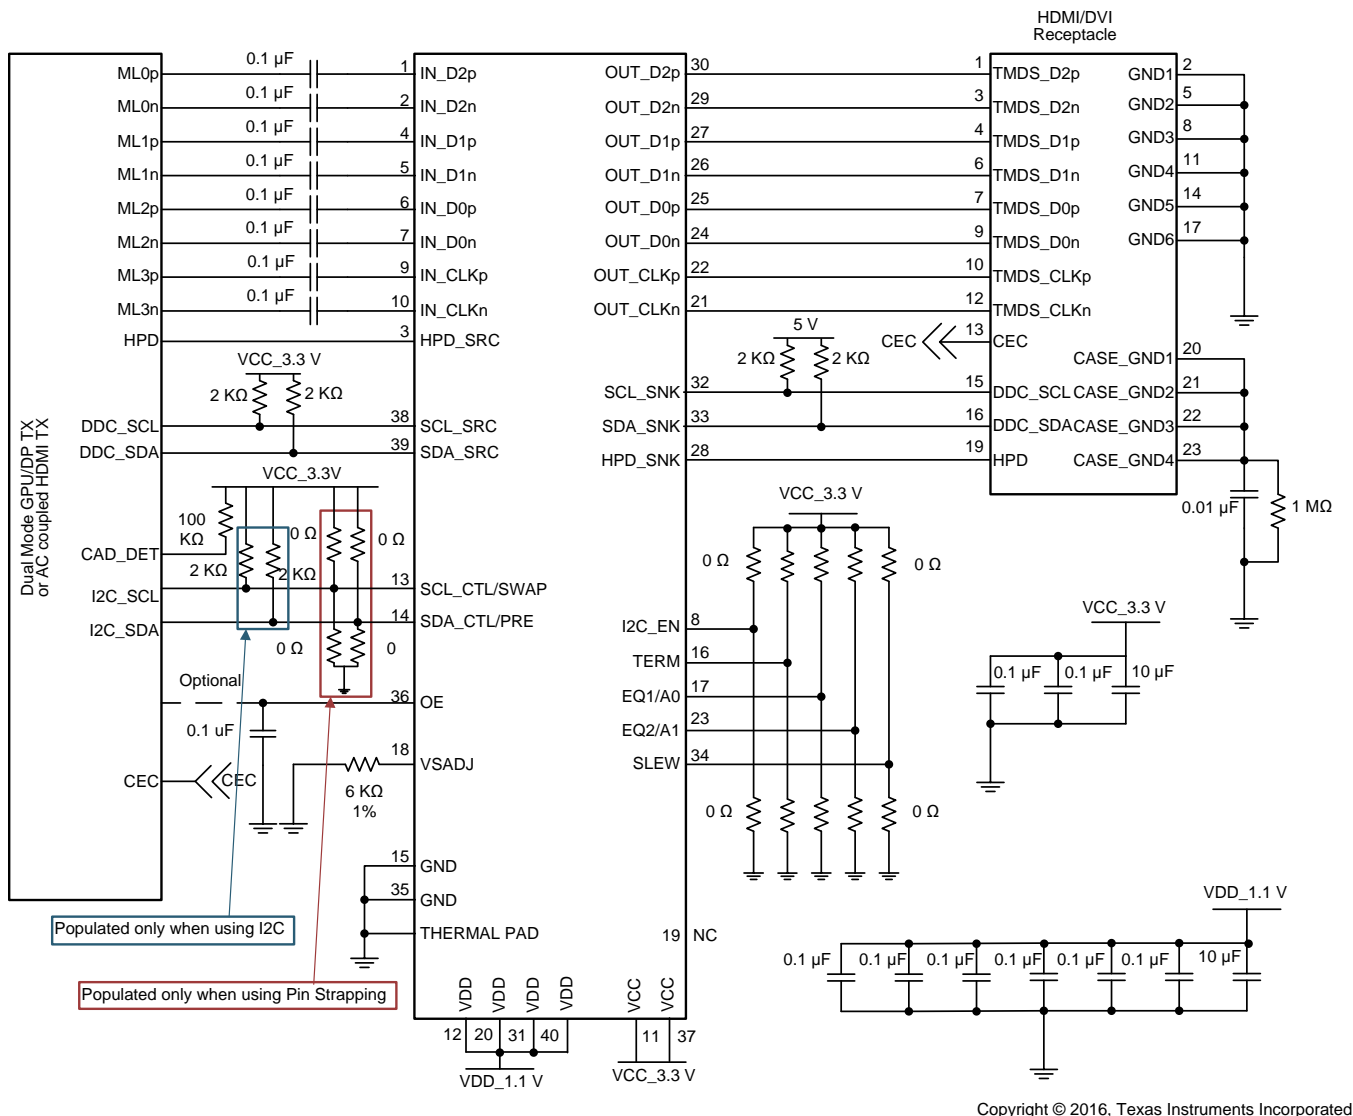

Figure 44. TDP158 in Source Side Application
Figure 44 provides a schematic representation of what is considered a standard implementation.
- Use the typical application Figure 44 for information on control pin resistors.
- See schematics in Figure 44 on recommended decouple caps from V_{CC} pins to Ground.